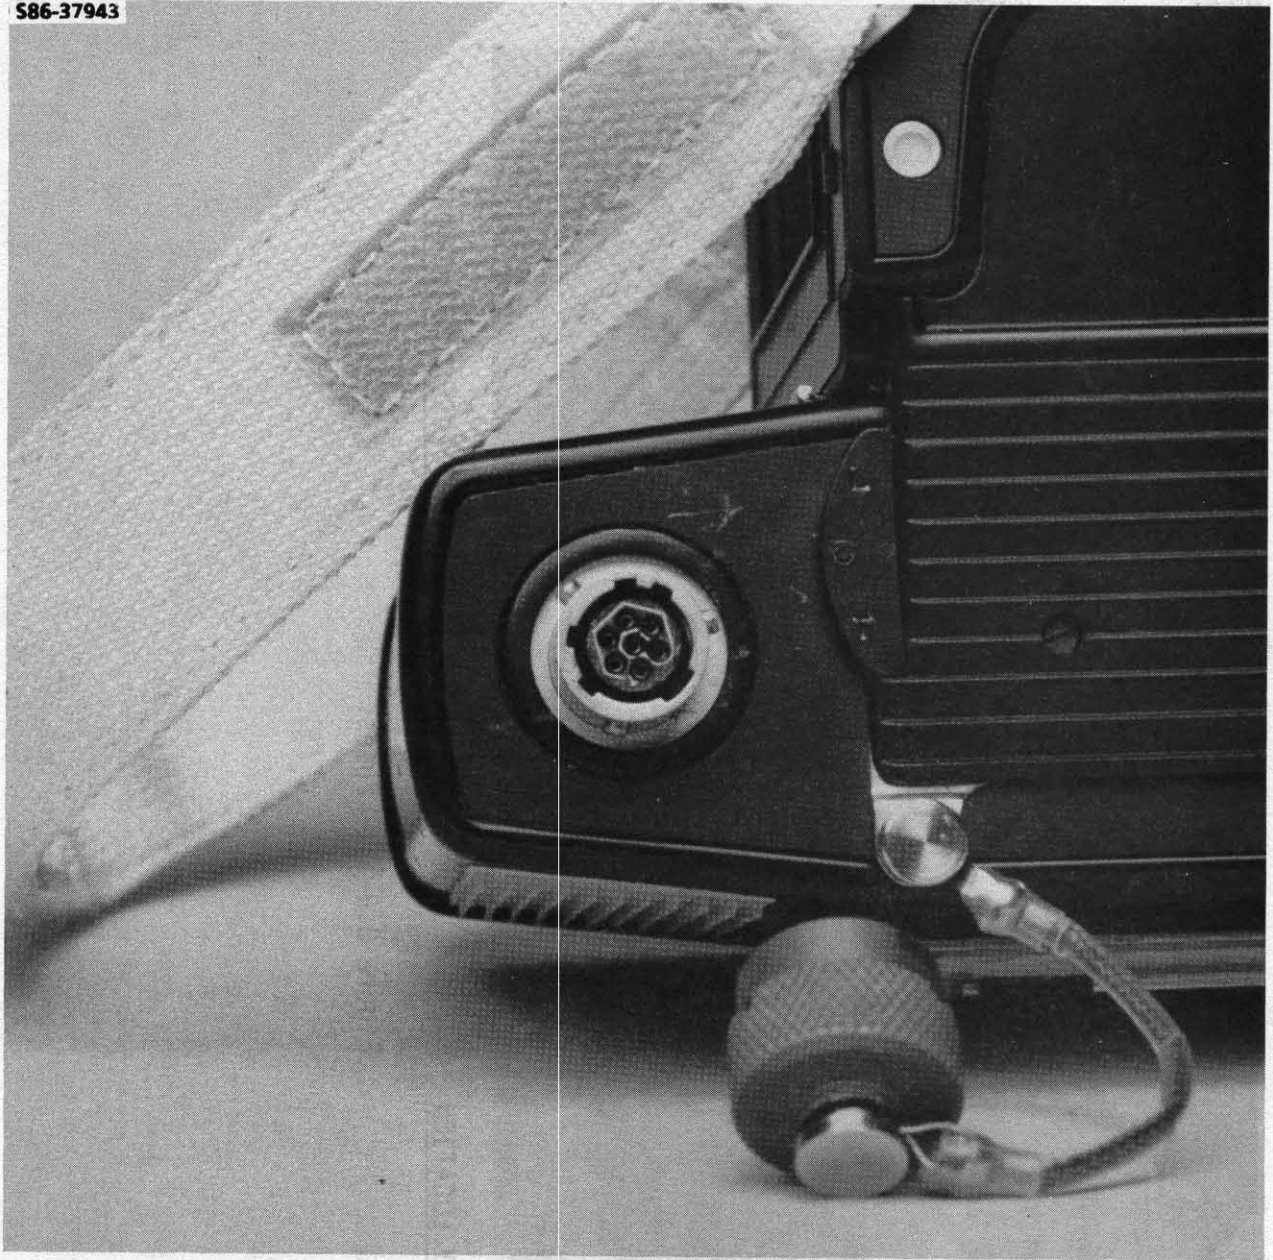

Figure 3.9-16.- Remote control connector.
- The camera body includes a remote control connector. This connector allows the remote ON/OFF switch to be attached for remote activation of the camera (fig. 3.9-16).